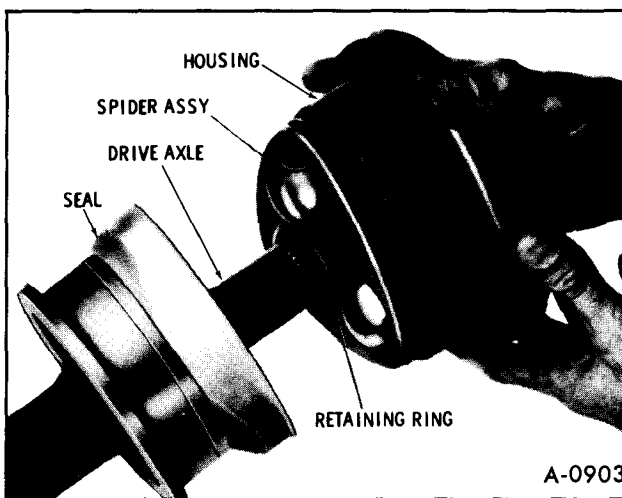

Figure 22—Removing Housing Assembly
2. Grasp axle assembly with one hand and joint housing with the other and stand both vertically on the bench. Carefully withdraw axle from housing, being certain not to lose the balls and needles from the axle. (figure 22)
12. Position spider assembly in line with housing assembly and push into housing until bottomed. (figure 22)